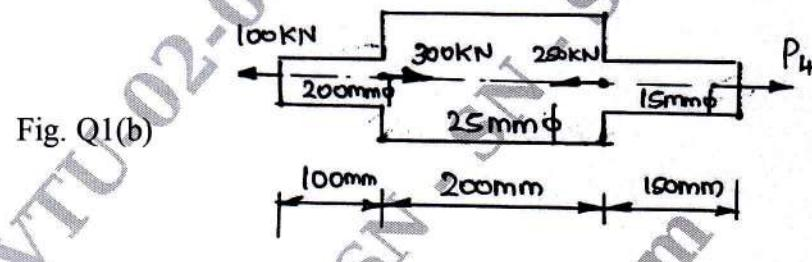

Fig. Q1(b)
- b. Determine the stresses in the various segment of circular bar shown in the Fig. Q1(b). Compute the total elongation. Take $E = 195 \text{ GPa}$. (08 Marks)